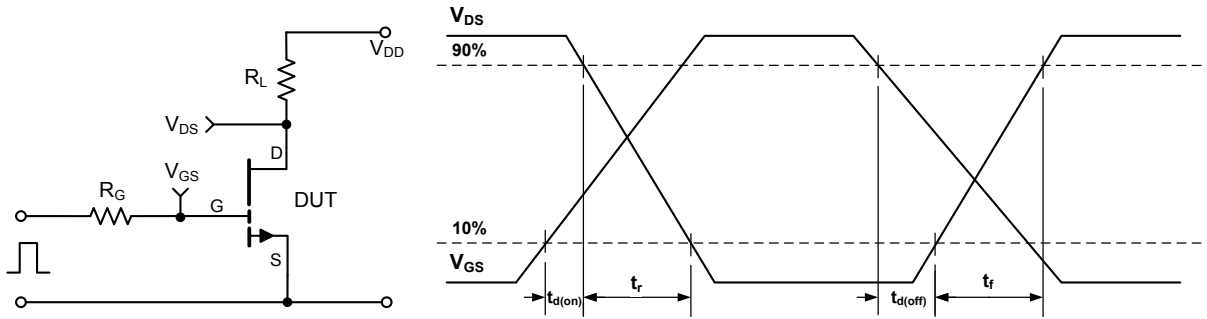
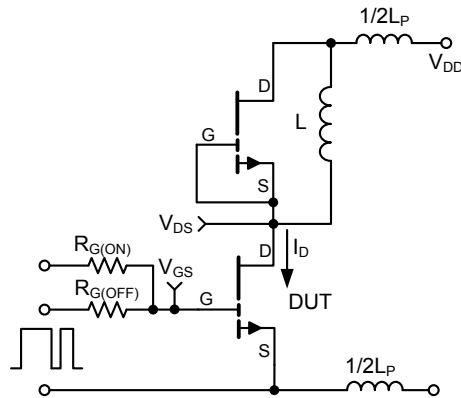

Figure 12: GS66516T switching time test circuit and waveforms
Figure 13: GS66516T Switching Loss Test Circuit
- (5) See Figure 12 for timing test circuit diagram and definition waveforms
- (6)  $L_P$  = parasitic inductance
- (7) See Figure 13 for switching test circuit